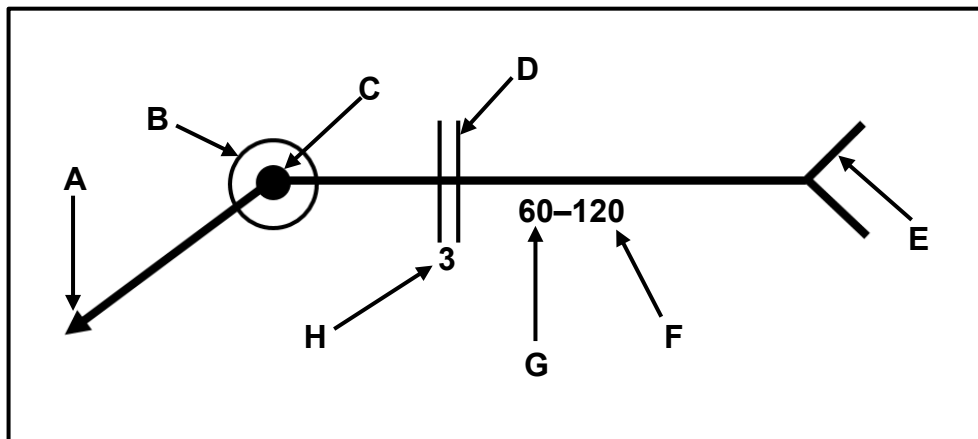

FIGURE 5.5
5.5 FIGURE 5.5 below shows a drawing with the relevant information needed to manufacture a component. Identify A–H.